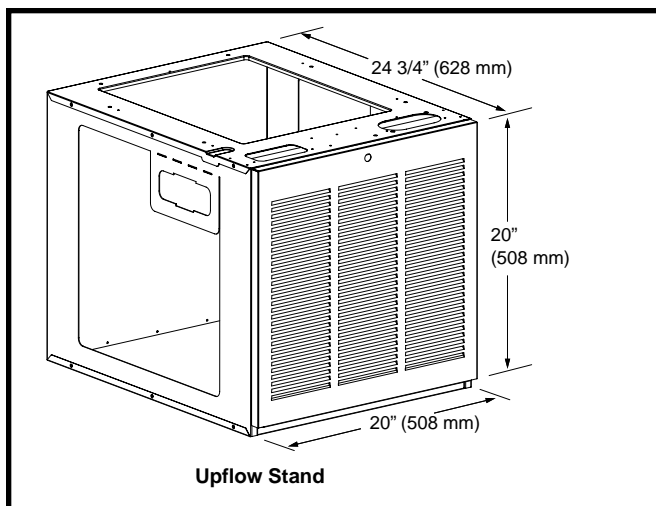

Figure 4. Optional Upflow Stand
- Stand (Figure 4, page 8) must use two filters: one is supplied with the stand and the other MUST be removed from the furnace and placed in the stand. See instructions supplied with the upflow stand for additional details.